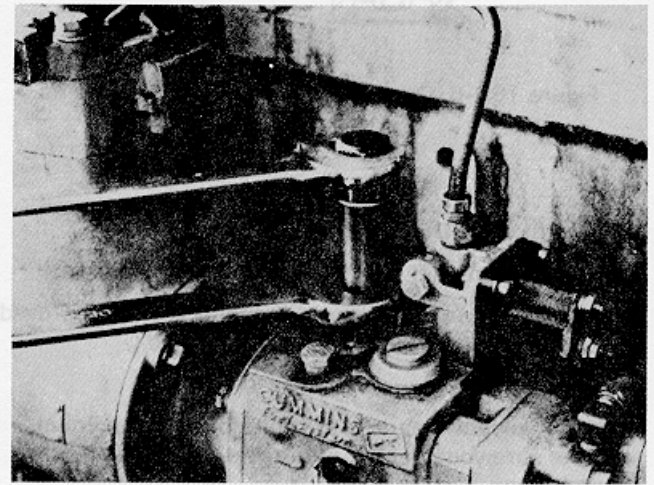

Figure 16G-11. Removing Tachometer Drive Assembly with ST-1 326
3. Carefully drive tachometer drive assembly from pump front cover. Use a brass punch and hammer or use ST-667-10 collet with ST-667 Dowel Puller or use ST-1326 to pull tachometer seal, shaft and bushing, Figure 16G-11.